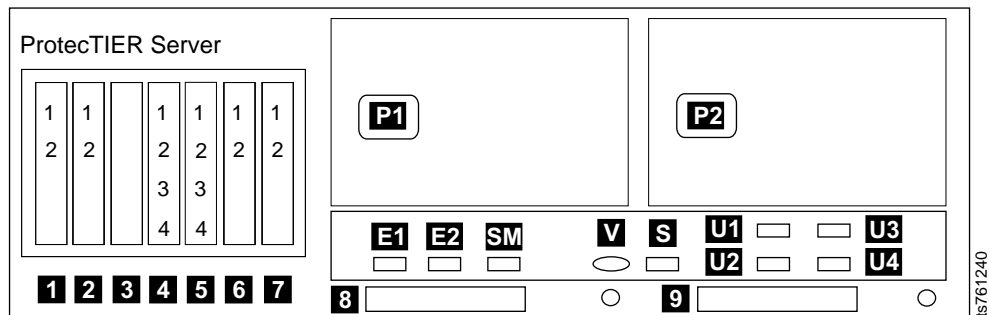

Figure 11. 3958 DD5 server rear view with FSI configuration, Feature Code 3457
- If two instances of Feature Code 3457 are installed, two 10 Gb dual-port Ethernet adapters for use with Fibre Channel cabling and one 1 Gb quad-port Ethernet adapter (Figure 11 on page 15)